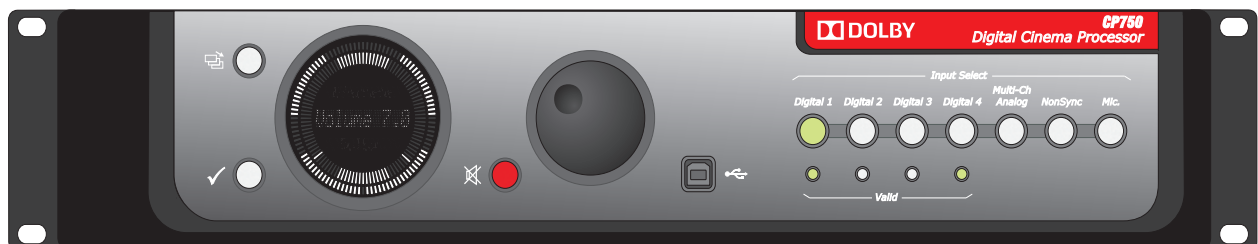

Figure 1-1 CP750 Front Panel
The CP750 front panel shown in Figure 1-1 includes the following components from left to right:
- Four LEDs that indicate the presence of a **Valid** signal on each digital input. **Digital 1** and **Digital 4** have valid signals in Figure 1-1.
The menu control buttons to the left of the display, shown in Figure 1-1, are used by both the operator and the service engineer to navigate front-panel screen menus, select various menu options, and store setup data.
Pressing the mute button shown in red in Figure 1-1 fades the audio output to all channels without disturbing the current main fader setting. Fade-in and fade-out speeds are separately adjustable from 0.2 to 5 seconds, using the PC setup software. The mute button flashes red when activated.
Each digital input push button has a green **Valid** LED located beneath it. These LEDs light up when the CP750 detects a valid signal on the respective input, whether or not the input is selected. **Digital 1** and **Digital 4** have valid signals in Figure 1-1.